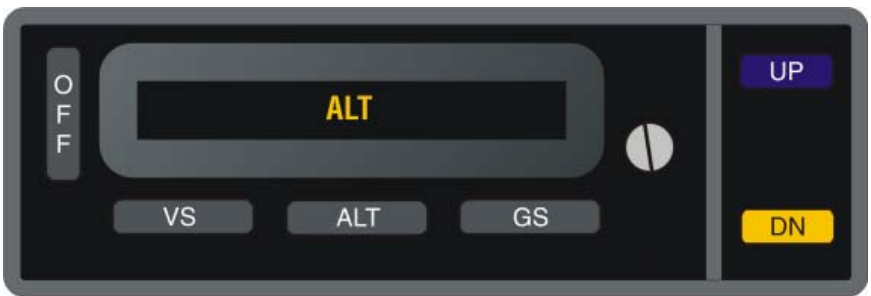

Fig. 2-4. AP Display, ALT HOLD Mode Engaged
19. Press ALT mode selector switch to engage altitude hold mode.	A/C Control Wheel stops. ALT annunciation only appears on AP display, as shown in Fig. 2-4.